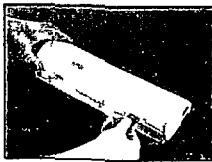

Figure 1
- Open the Radar unit using the supplied key (Figure 1)